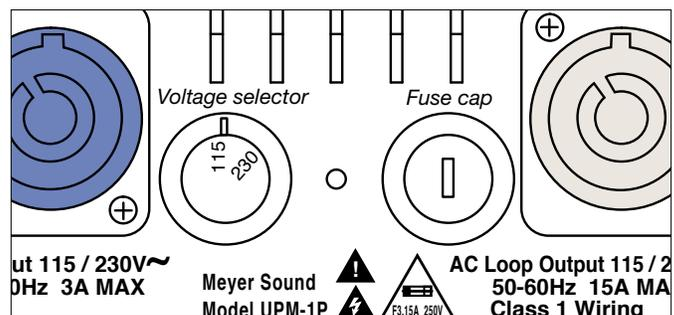

Figure 1.2. Rear panel AC inlet and voltage selector switch
**CAUTION:** To avoid damage to the unit, check the AC voltage selector switch (Figure 1.2) on the user panel before plugging in the unit and applying power. Set the switch to local AC voltage. Always unplug the power cord before changing the voltage selector switch.